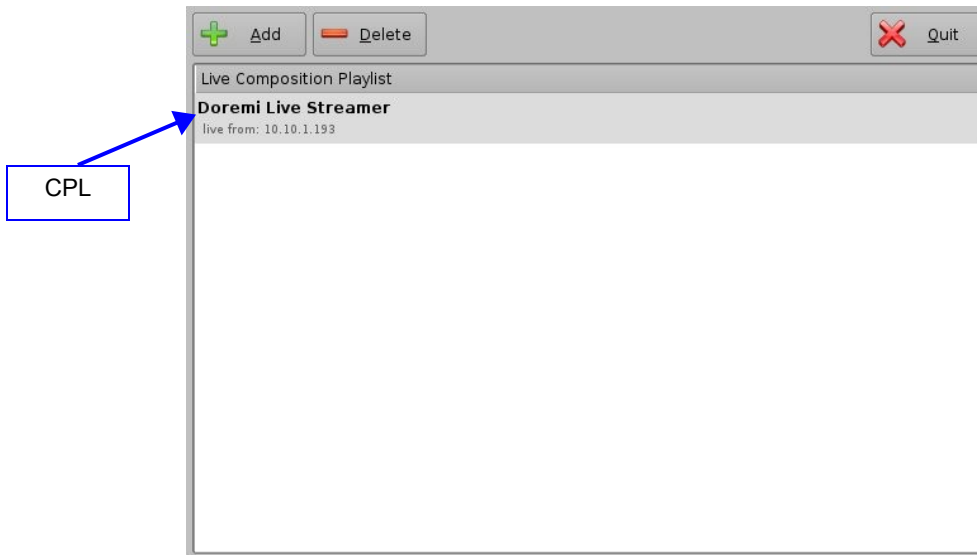

Figure 124: Live Manager – CPL Created
- Clicking the Finish button will make the Live CPL visible in the Live Manager main window (Figure 124).